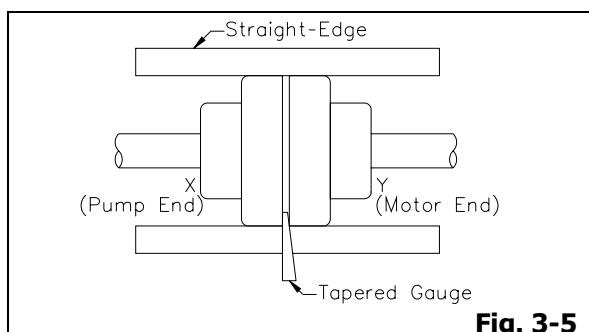

Fig. 3-5
- Place the straight-edge across both halves of the coupling parallel to the shaft (Fig. 3-5).
- Use tapered gauge to check the spacing between the periphery of each half of the coupling (Fig. 3-5).